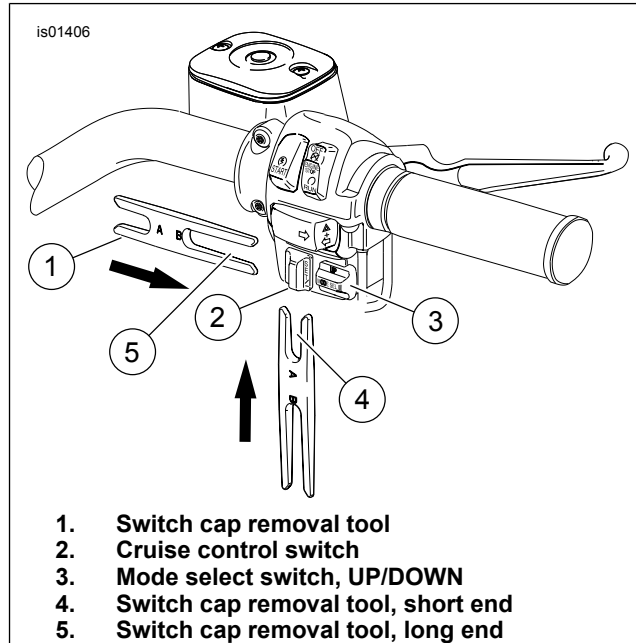

Figure 2. Cruise Control and Mode Select Switch Caps
- See Figure 2. Use short end (4) of tool to remove cruise control switch cap (2). Push upwards under switch cap. The tool taper will slowly push the switch cap off switch pin.
- See Figure 3. Use long end (Figure 2, Item 5) of tool (1) and push tool straight and under mode switch cap until it is disengaged from switch pin (2) to remove mode select switch cap (3).